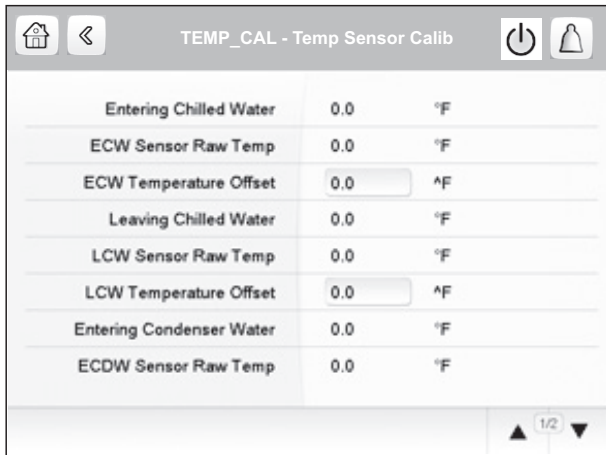

Fig. 36 — Temp Sensor Calib Screen, Page 1
- In the Temp Sensor Calib screen, enter the temperature offset for the appropriate sensor as calculated in Step 4. See Fig. 36 and 37.